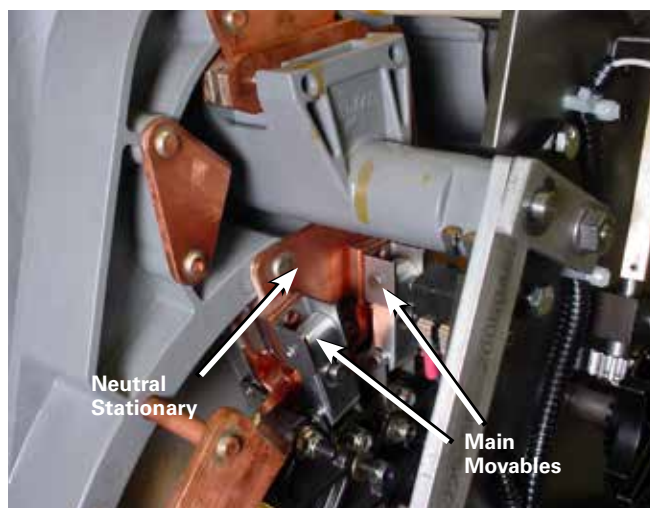

Figure 22. Neutral stationary contact.
- A. Main movable contacts are located on the neutral stationary contact, which is located at the 11 o'clock position and under the reversing switch movable contact assembly. See Figure 22.